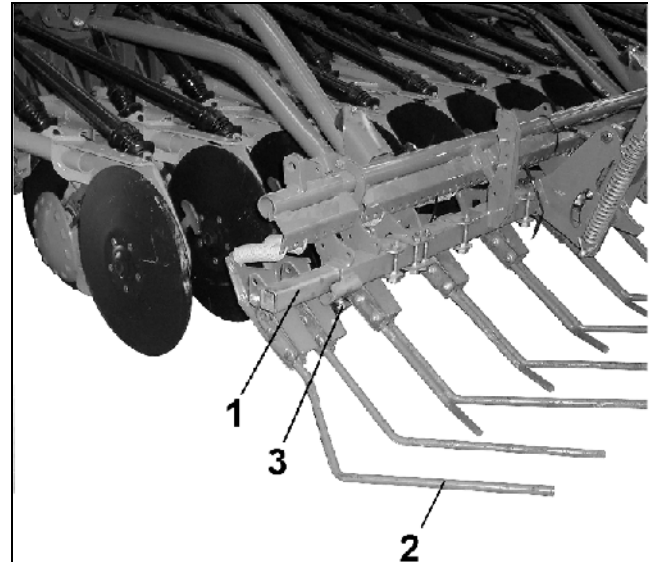

Fig. 27
The exact harrow (Fig. 27) covers the seed in the seed furrows evenly with loose soil levels the soil.
- Set the outer harrow tines (Fig. 27/2) in such a way that the soil is guided inwards in order to achieve a track free seed bed.
- The higher the forward speed, the more the square tube (Fig. 27/1) should be pushed outwards.
- After any setting secure the square tubes with the outer harrow tines by using clamping bolts (Fig. 27/3).